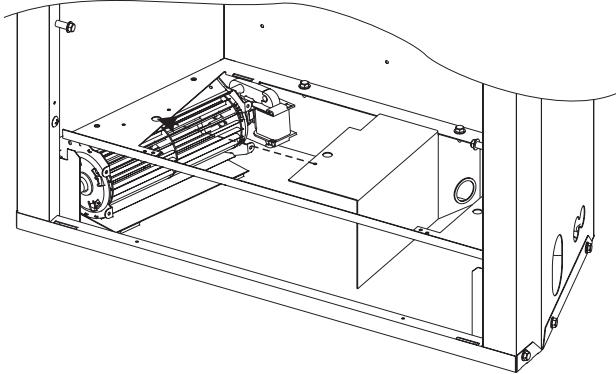

Figure 26
14. Place blower shield side adjacent to motor. Route blower motor wires through Heyco bushing on blower shield side. See Figure 26.